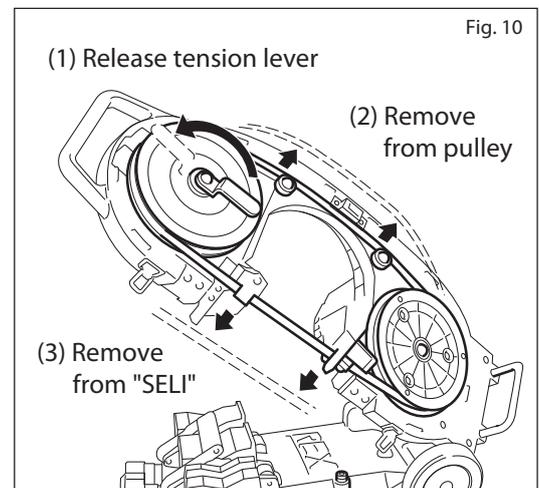

Fig. 10
### Removing the blade (Fig. 10)
- Attach the blade, using steps (1) through (5) in Fig. 10. Then turn the tension lever clockwise (6) to apply tension to the blade.